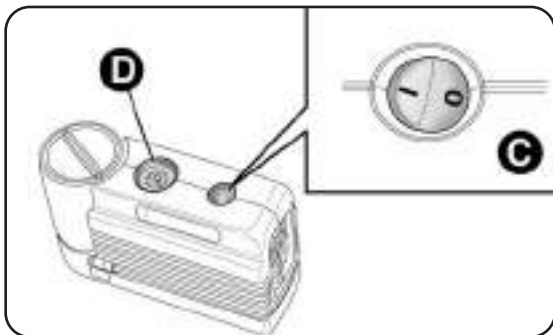
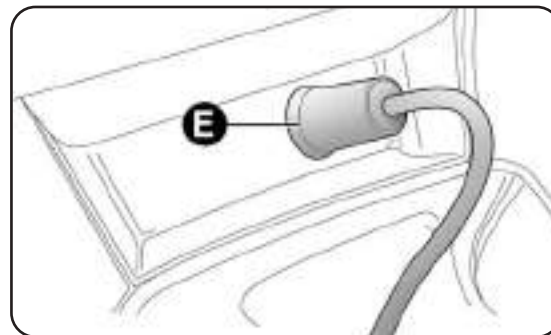

fig. 5
fig. 5a
- make sure that switch C - fig. 5 for the compressor is in position 0 (off), start the engine, insert pin E - fig. 5a into the power socket and switch on the compressor by placing switch C - fig. 5 in position I (on);
- inflate the tyre to the pressure specified in the “Inflation pressure” paragraph, in chapter “6”. For a more accurate reading, check pressure value on pressure gauge D - fig. 5 with the compressor off;